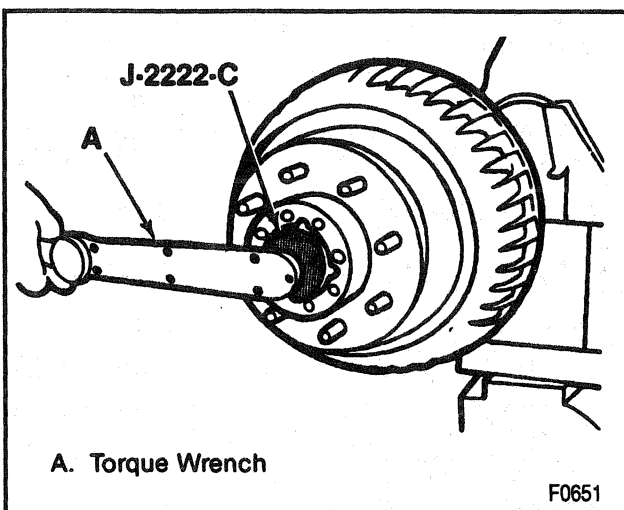

Figure 24—Tightening the Adjusting Nut
- Adjusting nut to 68 N.m (50 lb ft) using J 2222-C while rotating hub and drum assembly in opposite direction of adjusting nut. (Figures 24 and 25).